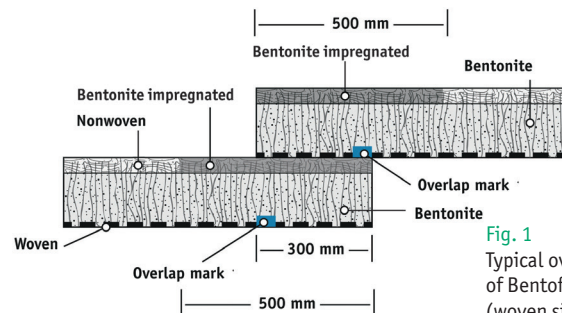
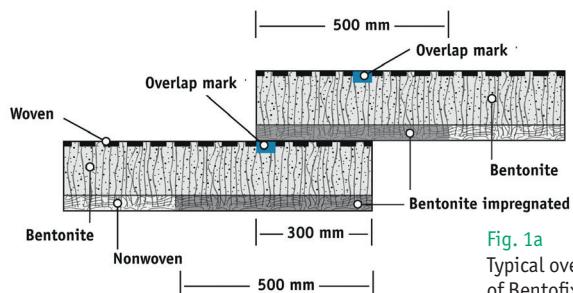

Fig. 1
Fig. 1a
1.2 During the manufacturing process the cover of Bentofix® NSP types is impregnated during the production with bentonite powder at the edges on both sides in length direction in a width of 500mm (logitudinal overlaps) (Fig. 1 and Fig. 1a). This bentonite impregnation allows a simple self-sealing overlap at the edges in length direction, without any supplemental bentonite placement on site.